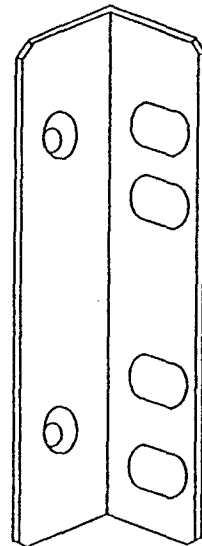

Fig. 4.2 Nest Fitting Metal
- (2) Nest Fitting Metal (Refer Fig. 4.2) 1 pair